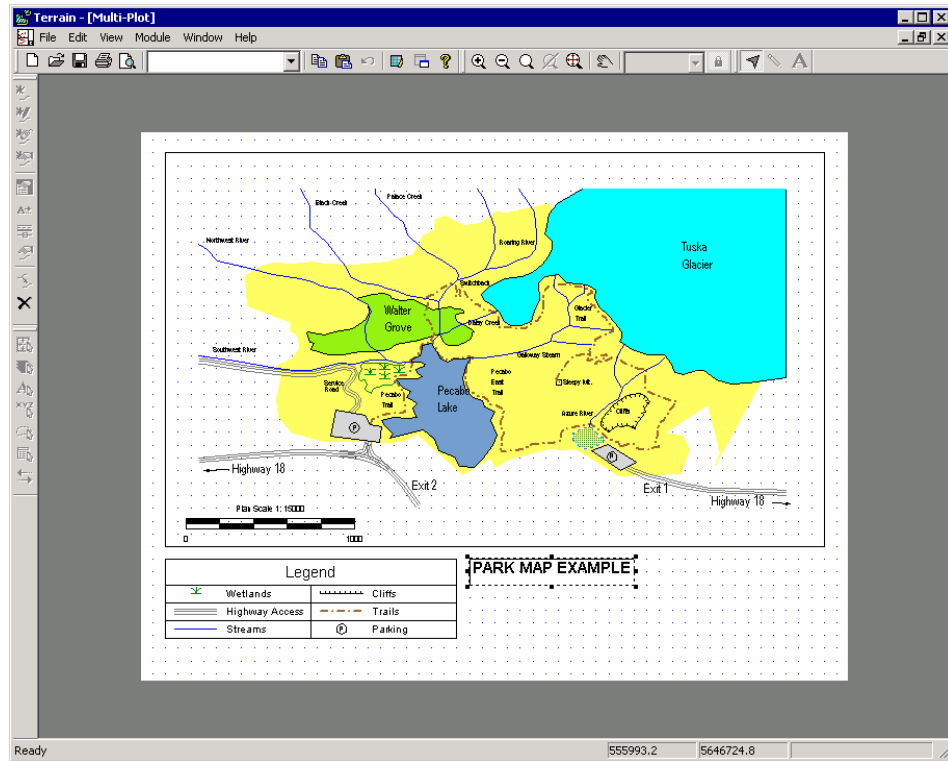

Figure 3.35: Multi-Plot Rectangle
18. Press OK and position the sub-view as shown in figure 3.35.